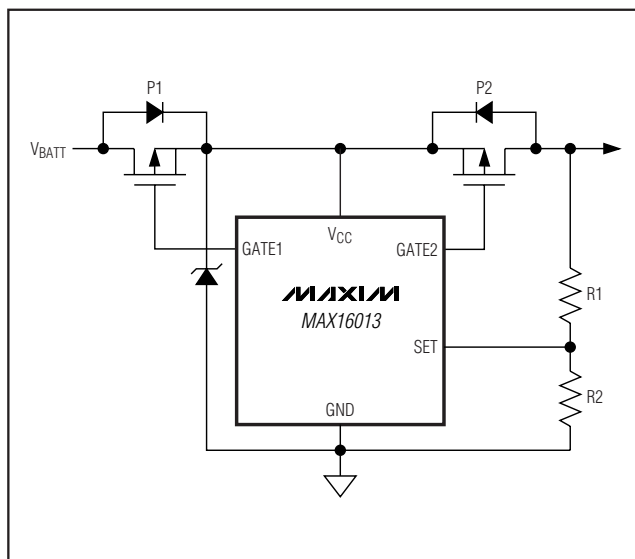

Figure 3. Overvoltage Limiter Protection
The MAX16013/MAX16014 can be configured as an overvoltage switch controller to turn on/off a load (see the *Typical Application Circuit*). When the programmed overvoltage threshold is tripped, the internal fast comparator turns off the external p-channel MOSFET (P2), pulling GATE2 to V_{CC} to disconnect the power source from the load. When the monitored voltage goes below the adjusted overvoltage threshold, the MAX16013 enhances GATE2, reconnecting the load to the power source (toggle ENABLE on the MAX16014 to reconnect the load). The MAX16013 can be configured as an overvoltage limiter switch by connecting the resistive divider to the load instead of V_{CC} (Figure 3). See the *Overvoltage Limiter* section.
- Add a zener diode or transient voltage suppressor (TVS) rated below V_{CC} absolute maximum rating (Figure 3).
Most battery-powered applications must include reverse voltage protection. Many times this is implemented with a diode in series with the battery. The disadvantage in using a diode is the forward voltage drop of the diode, which reduces the operating voltage available to downstream circuits ($V_{LOAD} = V_{BATTERY} - V_{DIODE}$). The MAX16013 and MAX16014 include high-voltage GATE1 drive circuitry allowing users to replace the high-voltage-drop series diode with a low-voltage-drop MOSFET device (as shown in the *Typical Operating Circuit* and Figure 3). The forward voltage drop is reduced to $I_{LOAD} \times R_{DS-ON}$ of P1. With a suitably chosen MOSFET, the voltage drop can be reduced to millivolts.